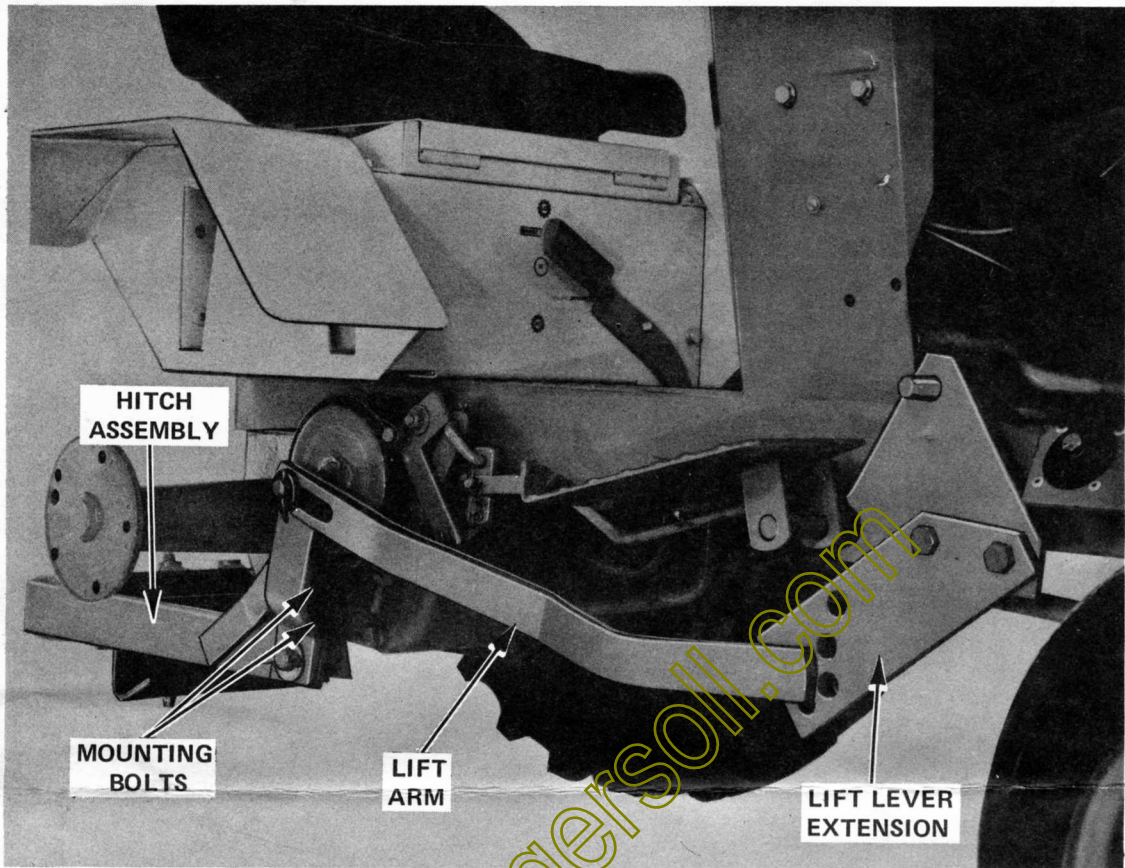

FIGURE 7
1. Attach the left hanger bracket loosely to the front of the left transaxle mounting boss at the upper hole only using one 1/2" bolt and lockwasher. See Figure 7.
of the transmission mounting boss. Secure with the four 1/2" bolt and lockwashers. See Figure 7.
4. Secure the Lift Lever Extension to the tractor lift lever with the two 1/2" bolts, nuts and lockwashers provided. See Figure 7.